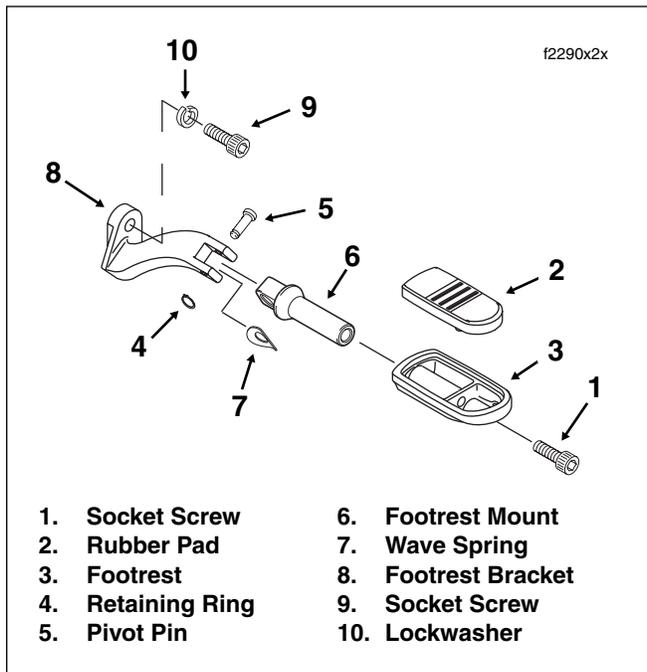

Figure 2-205. Passenger Footrest (FLHRS, FLHX)
1. Remove socket screw from end of footrest. Remove rubber pad from footrest. See Figure 2-205.
- Align hole in wave spring with bottom hole in footrest bracket. See Figure 2-205. Be sure that the concave side is down and the flat edge is against the inboard side of the footrest bracket.